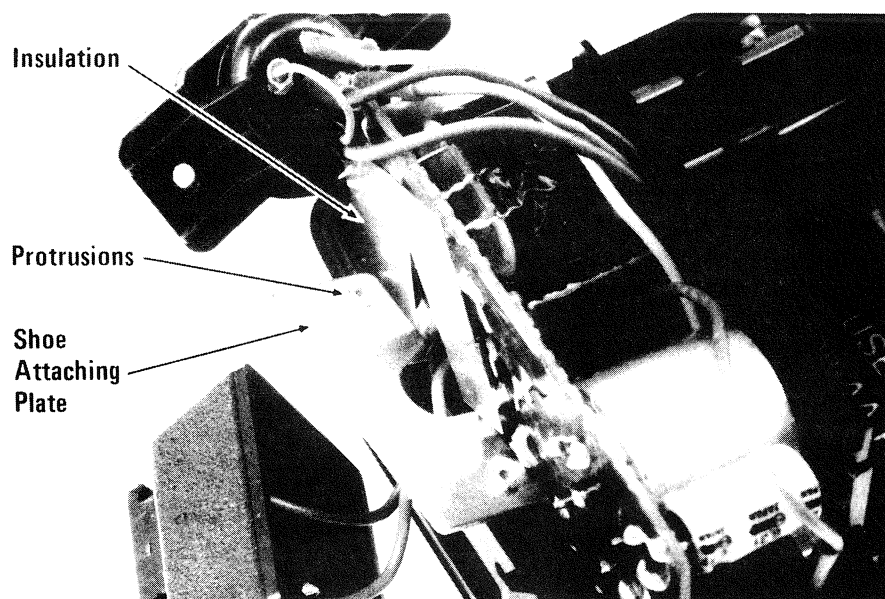

Figure 3-22. Shoe Attaching Plate Position
- F. When reinstalling the shoe attaching plate, make certain that the protrusions from the screw holes face towards the PC board. Insert plastic insulation between plate and PC board. Fig. 3-22.